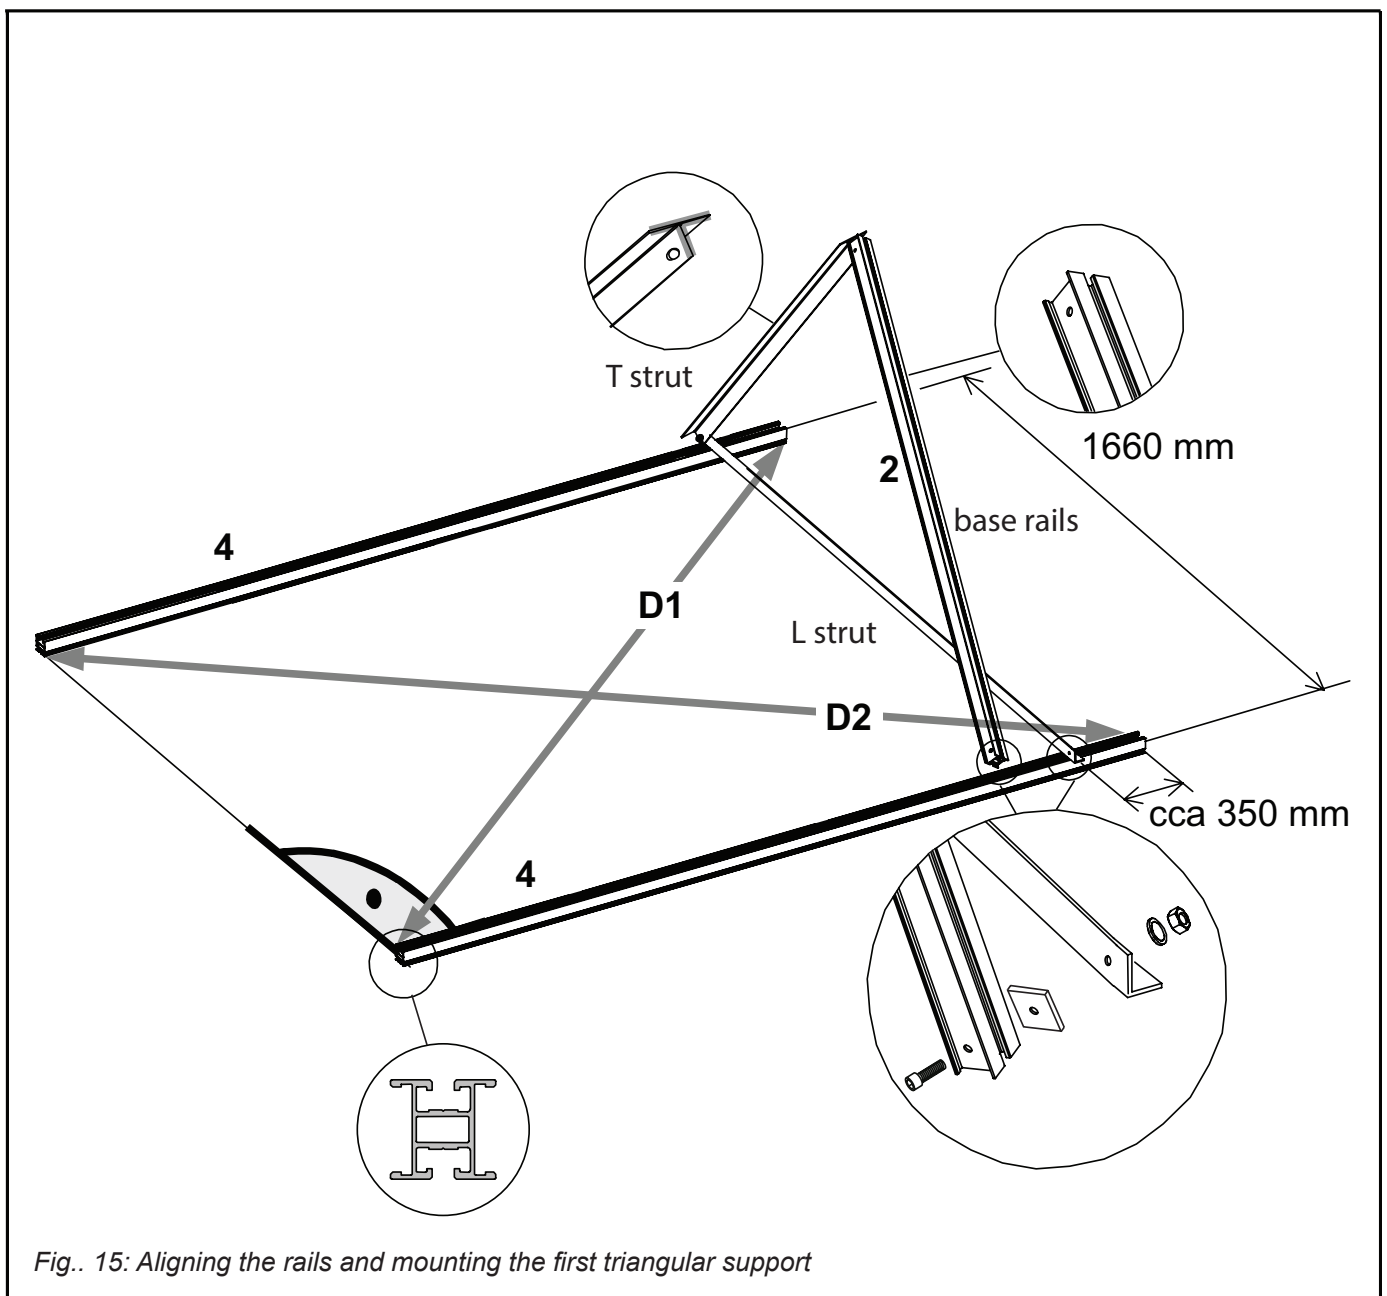

Fig.. 15: Aligning the rails and mounting the first triangular support
- The diagonals between the rails shall be of the same length: $D1 = D2$ (Fig. 15)